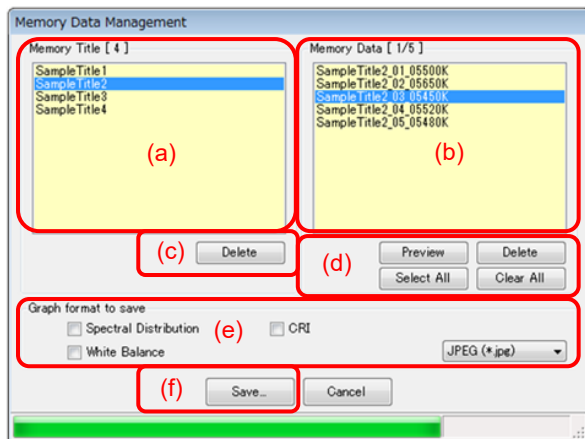
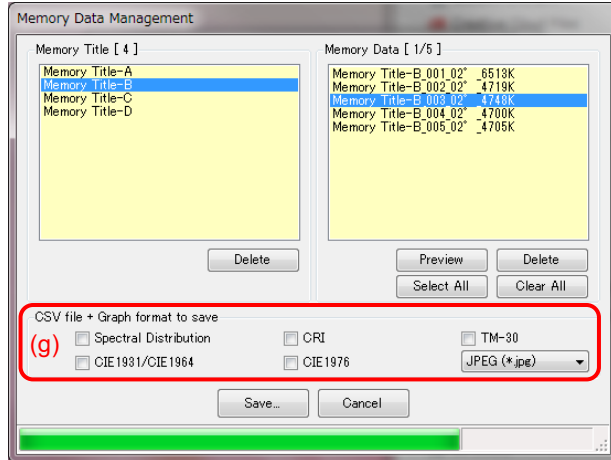

Figure 42 Memory Data Management [C-700/C-700R]
Figure 43 Memory Data Management [C-7000]
The memory data are saved in the CSV format. If item(s) shown with (e) in Figure 42 or item(s) shown with (g) in Figure 43 have check mark(s), relevant graph image(s) are saved. The names of files to be saved are shown in “Table 5 File names of memory data to be saved .”
*2 The “MemoryDataName” refers to the names displayed at (b) in Figure 42 (➡ Page 35).